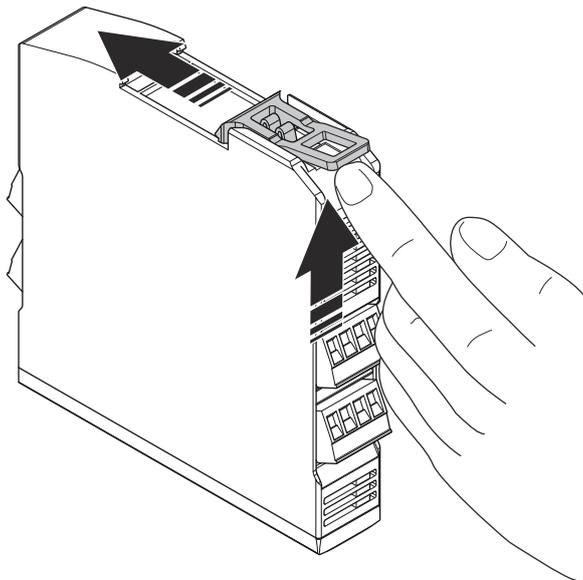

Figure 59: Reset the DIN rail latching device.
1. Make sure that the DIN rail latching is reset, see **Figure 59**.
4. Pull the bottom side of the DIN rail latching device from the safety relay and push it upwards to release it to its original position. See **Figure 59**.